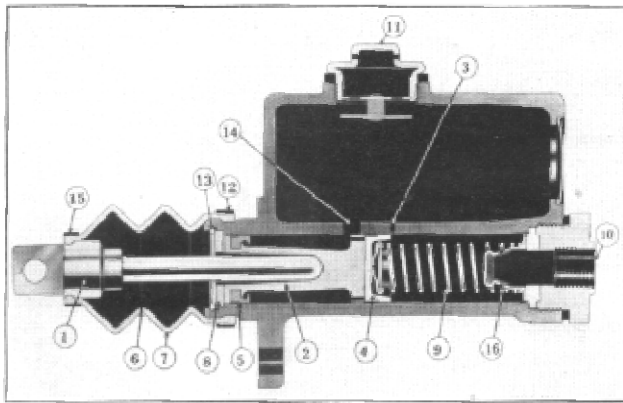

Figure 2
The master cylinder, Figure 2, consists of a supply tank cast integral over the master cylinder proper, in which compensating features are incorporated.
The return to released position of piston (2), Figure 2, and cup (4) is much faster than the return of the fluid through outlet (10) into the master cylinder. A momentary vacuum is created in the cylinder barrel and additional fluid is drawn into the system from the reservoir through the drilled holes in piston (2) and past the lip of cup (4). The pressure exerted on the fluid by the brake shoe retracting springs is sufficient to lift valve (16)
It is imperative that rod (1), Figure 2, which is attached to brake pedal operating rod, be adjusted for clearance where it seats in piston (2), so that there is 1/4" free movement of brake pedal pad before the pressure stroke starts.
This will permit cup (4), Figure 2, to be clear of port (3) when piston (2) is in its released position; otherwise the compensating action of the master cylinder will be destroyed and the brakes will drag.
Secondary cup (5) prevents fluid from leaking out of master cylinder into boot (7). Supply tank filler cap (11) is conveniently located, accessible under the left side of engine hood for checking fluid level. Supply tank should be kept at least half full of fluid. CAUTION: Before removing supply tank filler cap (11), Figure 2, extreme care must be used to prevent dirt from entering the master cylinder.
Remove large boot strap (12), Figure 2, that fastens boot to cylinder casting. This permits removal of boot, link and small boot strap. With a sharp-pointed screwdriver remove retainer spring (13) from its groove. This permits the removal of internal parts. Rubber parts and cylinder bore are then checked.
Wash castings and parts in clean alcohol, dip casting and parts in Genuine Hudson Hydraulic fluid for lubrication purposes. Install valve (16) and return spring (9) as shown in Figure 2. Assemble primary cup (4), piston assembly (2) and piston ring (8). Snap retainer spring in groove. Assemble boot and link in place and replace large boot strap. Unit is now ready for installation on car.